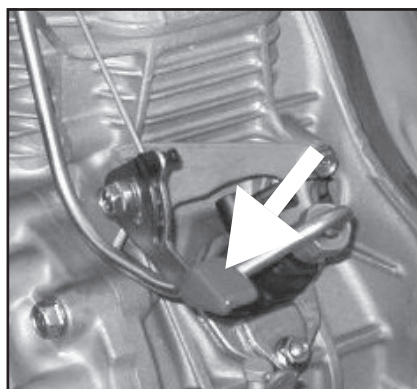

Fig.5 (P3500 - P4500)
- 2) Lower the valve lifter lever placed on the engine, as shown in figures 5 and 6.